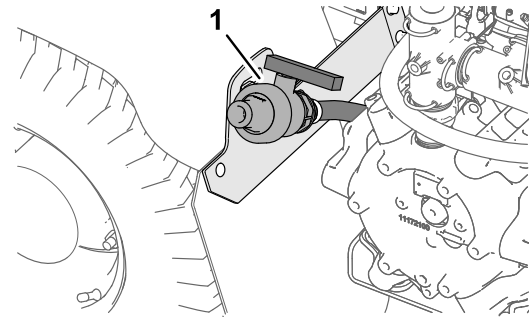

Figure 48
2. Locate the tank-drain valve at the left, rear fender of the machine (Figure 48).